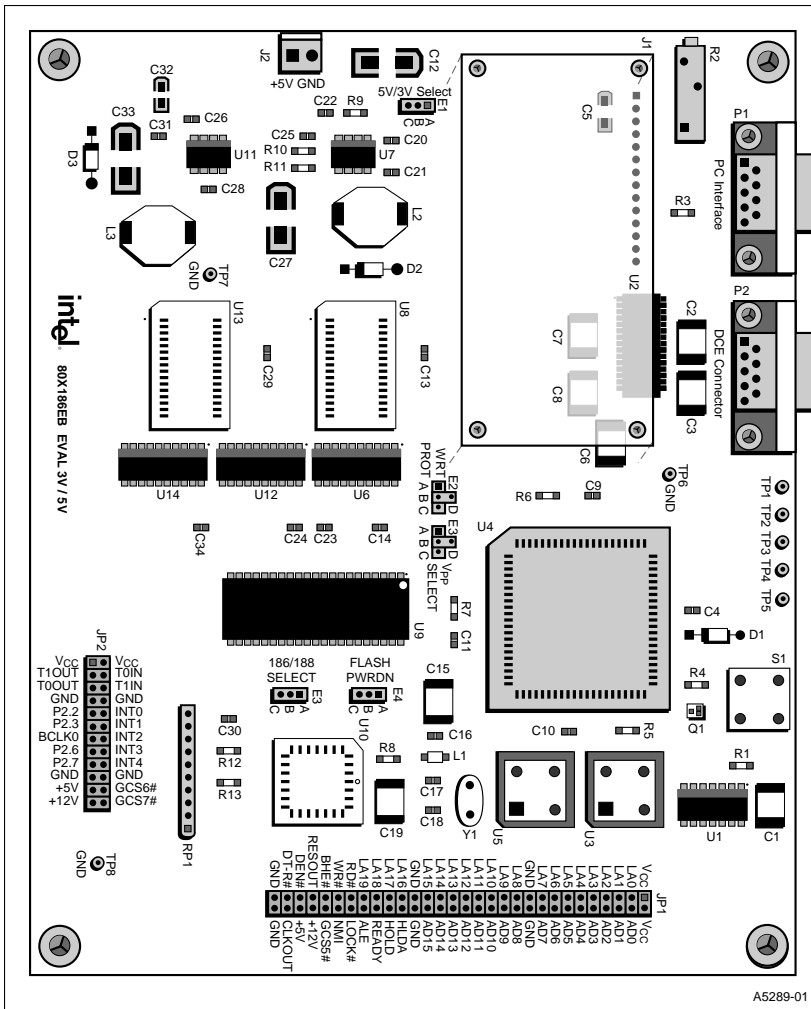
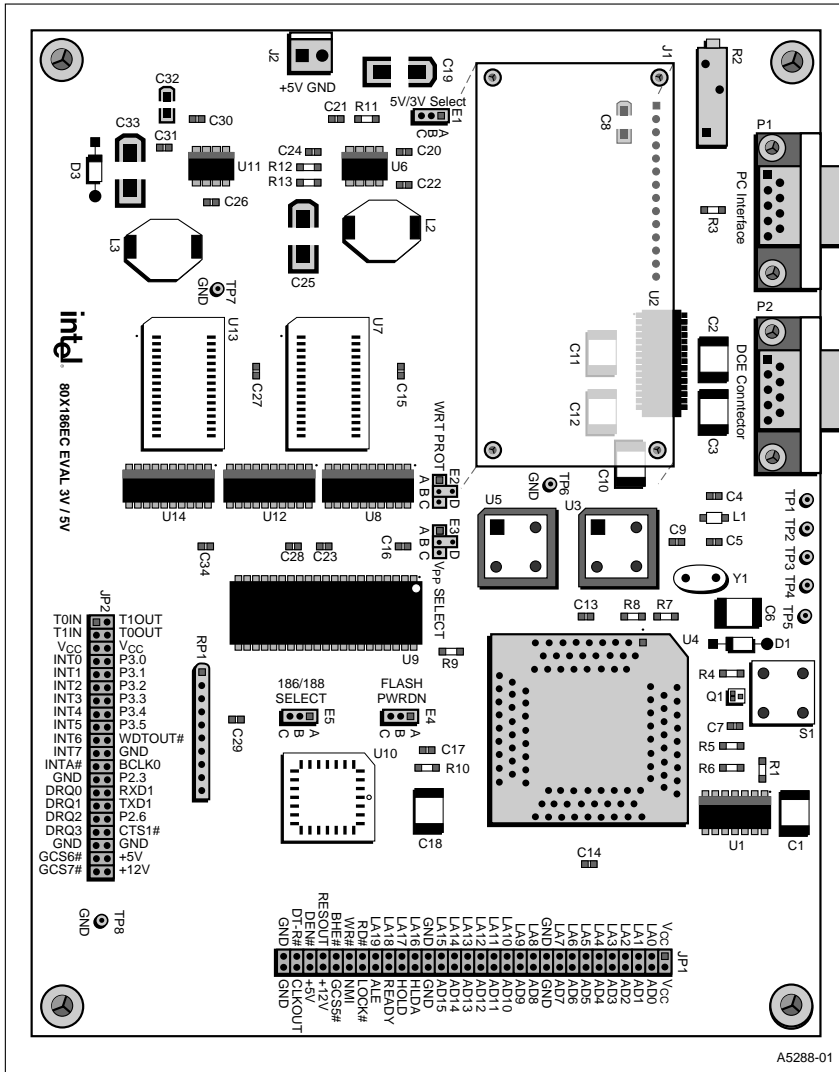

Figure 2-1. Intel 186 EB Evaluation Board Layout
Figure 2-2. Intel 186 EC Evaluation Board Layout
This chapter describes the Intel 186 EC/EB Evaluation Board kit, and provides setup instructions. Figure 2-1 shows the 80x186 EB Evaluation Board layout, and Figure 2-2 shows the EC board layout. Refer to these figures when you are following the instructions in this chapter for setting up your evaluation board.
3. Connect the power supply. The Intel 186 EC/EB Evaluation Board operates from a 5 VDC \pm 10% power supply plugged into the J2 power connector (see Figures 2-1 and 2-2). This 5 volt signal is stepped down to 3.3 volts on the board. The connector housing and contact pins provided in your kit match the power supply to the J2 connector.
To select 5 V, place a jumper on pins B and C of jumper E1. To select 3 V, place a jumper on pins A and B of jumper E1. See Figures 2-1 and 2-2 for jumper locations.
The evaluation board comes with a 16 MHz 80L186 EB or EC processor, 512 Kbytes of Flash (containing the iRISM-186 monitor and a Flash loader utility in the boot block), and 256 Kbytes of SRAM. The expansion connector (JP1) supports up to 1 Mbyte of external memory and 64 Kbytes of external I/O. Refer to Figures 2-1 and 2-2 for the exact locations of connectors, jumpers and headers listed in this chapter.